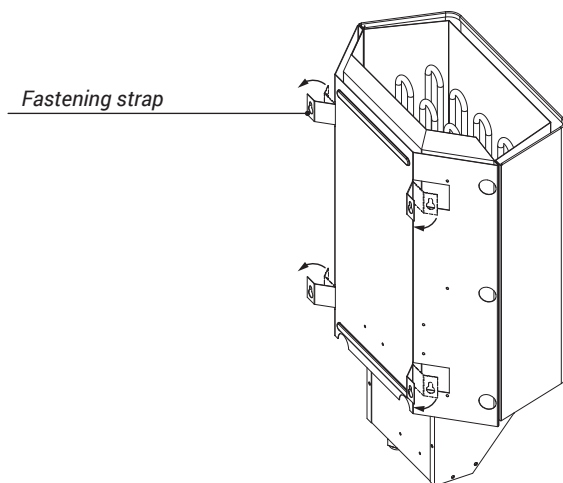

Fig. 6
- Align the fastening straps with the given tilting with the holes parallel to the cabin wall (see Fig. 6).